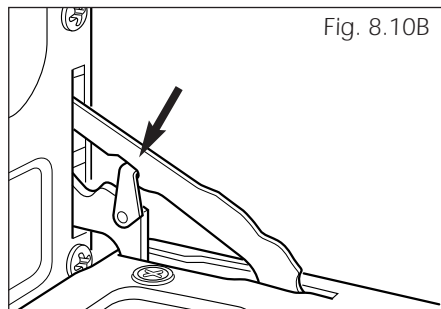

Fig. 8.10B
- Attach the retaining rings to the hooks on the left and right hinges (fig. 8.10B).